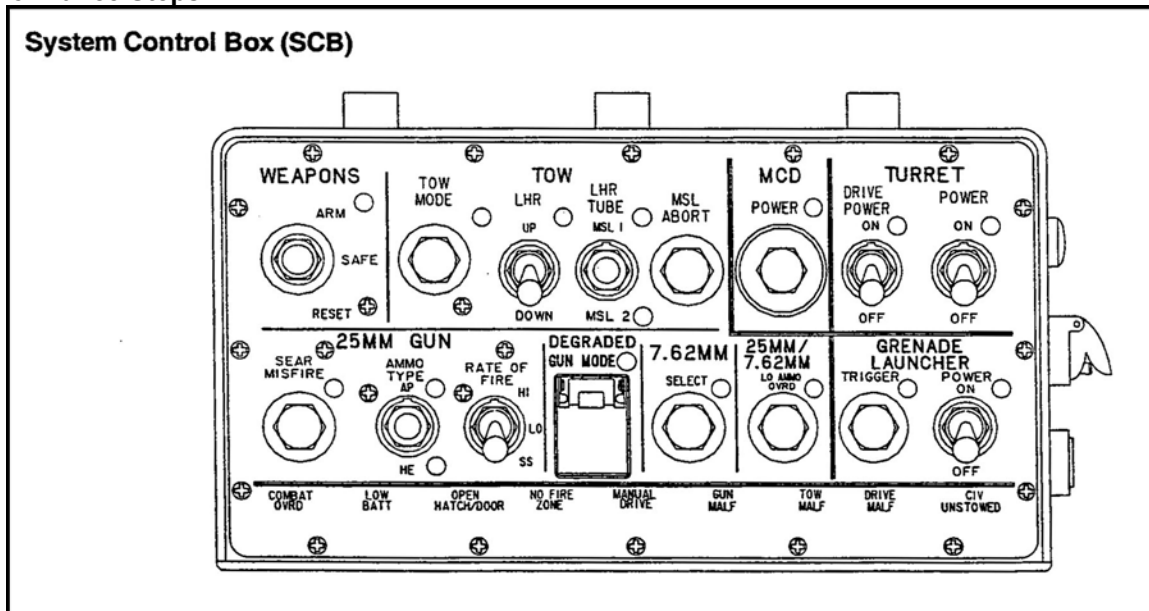

Figure 21. System control box.
- (1) Use DVO (preferred) or day TV. FLIR should be used only if zeroing must be done at night.
- (2) Select high magnification (HI MAG) narrow field of view (NFOV) using HI/LO MAG switch on the GHS.
- (3) Center (TAS) reticle on the 25mm zero target by manually traversing the turret and elevating or depressing the gun.
- (4) Range the target using the Laser Range Finder (LRF) or enter the range manually by using the range knob on the GSCP.
- (5) Repeat step 3 if the reticle is not on target.
- (6) Cycle the ghost round.
- (a) Move the ARM-SAFE-RESET switch to ARM (Figure 21).